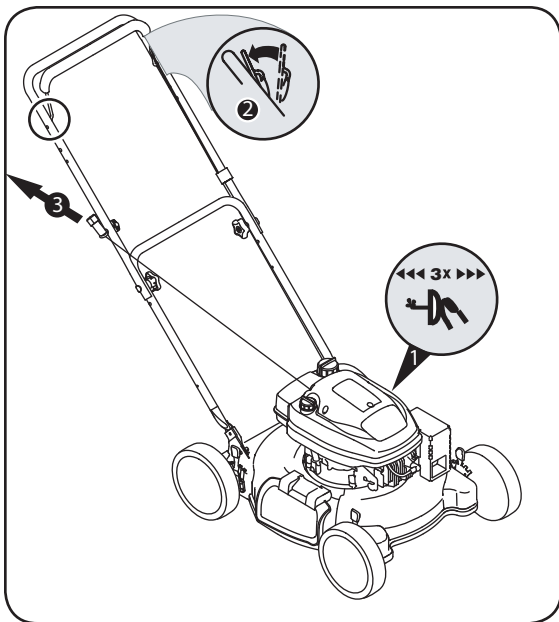

Figure 9
2. Standing behind the unit, depress the blade control handle and hold it against the upper handle as shown in Figure 9.